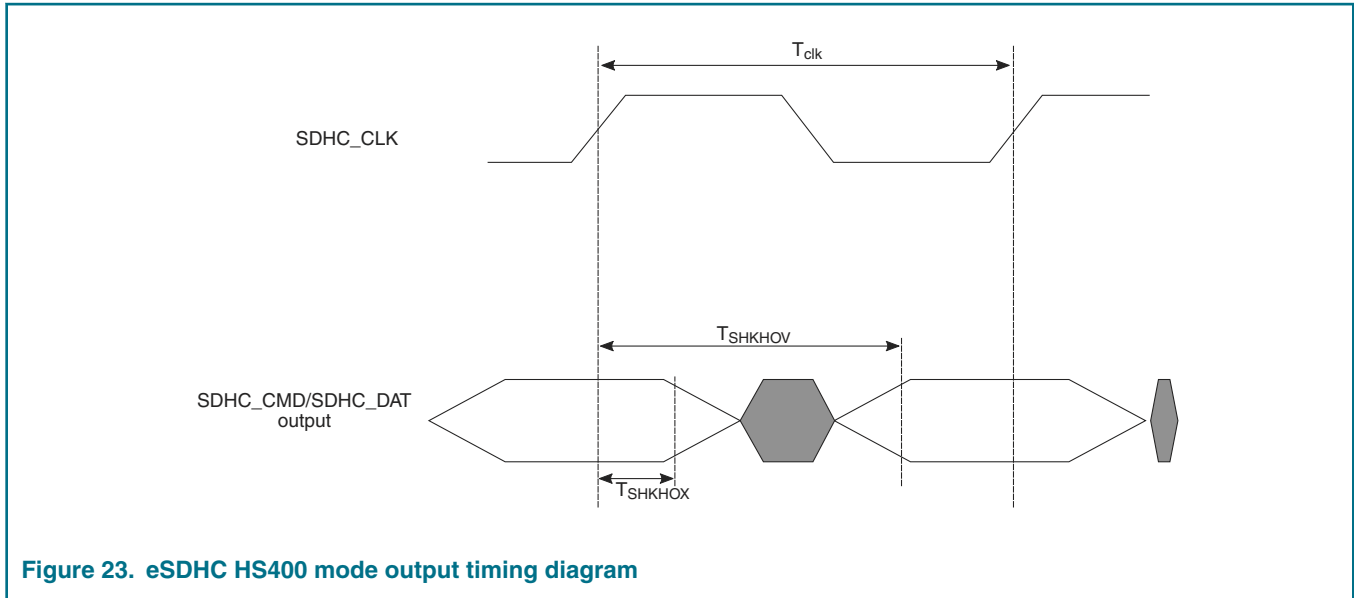

Figure 23. eSDHC HS400 mode output timing diagram
4. See Figure 23. on page 99.
<p>1. $C_L = C_{BUS} + C_{HOST} + C_{CARD} \leq 15pF$.</p> <p>2. The symbols used for timing specifications herein follow the pattern of $t_{(first\ two\ letters\ of\ functional\ block)(signal)(state)\ (reference)(state)}$ for inputs and $t_{(first\ two\ letters\ of\ functional\ block)(reference)(state)(signal)(state)}$ for outputs. For example, t_{SHKH0X} symbolizes eSDHC highspeed mode device timing (SH) clock reference (K) going to the high (H) state, with respect to the output (O) reaching the invalid state (X) or output hold time. Note that in general, the clock reference symbol is based on five letters representing the clock of a particular functional. For rise and fall times, the latter convention is used with the appropriate letter: R (R for rise) or F (F for fall).</p> <p>3. See Figure 22. on page 98.</p> <p>4. See Figure 23. on page 99.</p> <p>5. The AC timing specifications are based on the recommended operating conditions with OVDD =1.8V, see Recommended Operating Conditions</p> <p>6. Suported on eSDHC2 interface only</p>